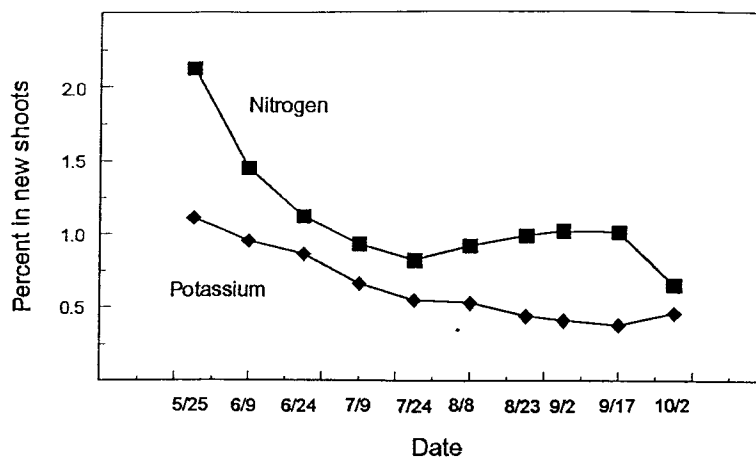

Figure 1.—Nitrogen and potassium percent in new shoot tips of "Early Black" cranberries in Massachusetts, 1988 (DeMoranville, 1992).
The change in nitrogen (N) and potassium (K) concentration in new shoots of Massachusetts "Early Black" cranberries during the 1988 growing season is illustrated in Figure 1. Tissue concentration changes rapidly early in the growing season. Compare the late August–early September sample results to samples collected between May 25 and June 24.
Figure 1 also illustrates the danger in collecting late September samples. Nitrogen concentrations decrease as plants enter dormancy, so these samples may not give an accurate picture of the situation in a bed.